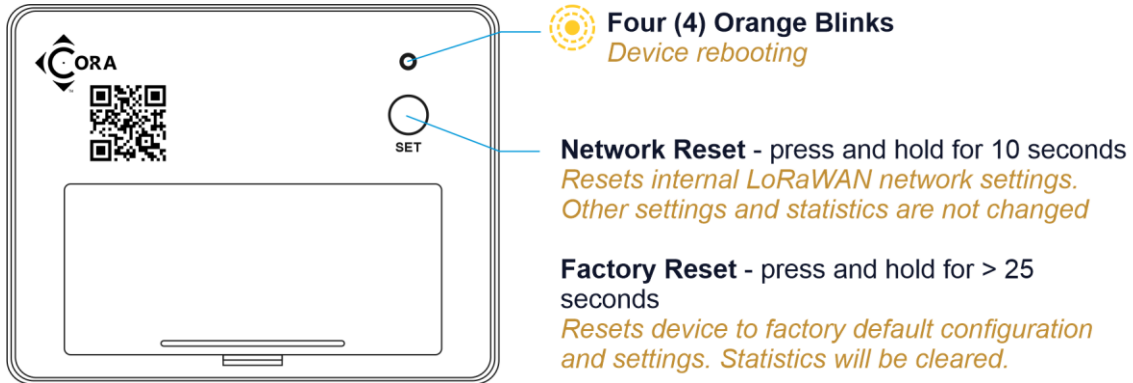

Figure 3 – Performing Network or Factory Reset on the Tilt & Vibration Sensor
1. For proper operation it is critical the Tilt and Vibration Sensor be **mounted on the top inside panel of a garage-door and must be oriented as shown in figure 3**. The sensor should be mounted as high on the garage-door as feasible. Otherwise, the door-open or door-closed indicators may not be accurate.